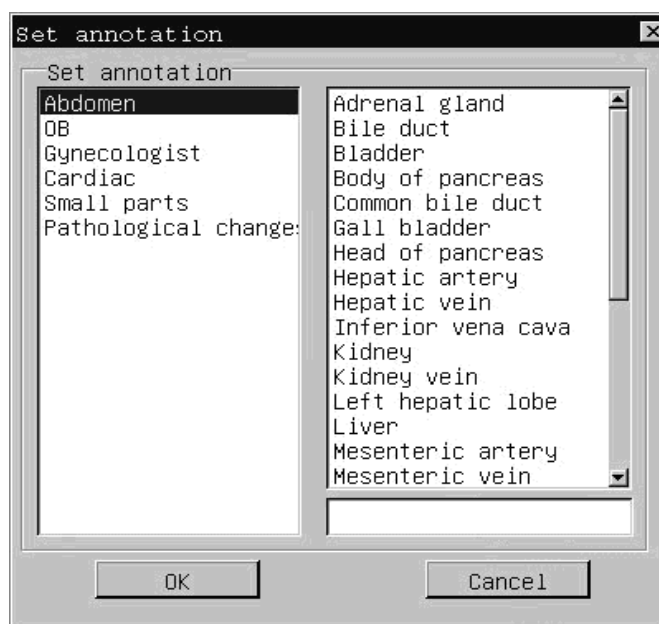

Fig. 9-2 Dialogue box for inputting annotation from the database
1. At the annotation status, move the cursor with the trackball to the required position for annotation on the image, press **【END】** key and a dialogue box appears for inputting annotation on the screen (please refer to Fig9-2).